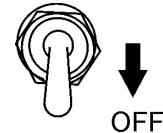

Figure 35. Operation Switch (OFF)
5. To shut-down the engine, place the generator's operation switch (Figure 35) in the OFF position.
1. Place operation switch (Figure 35) in the OFF position.